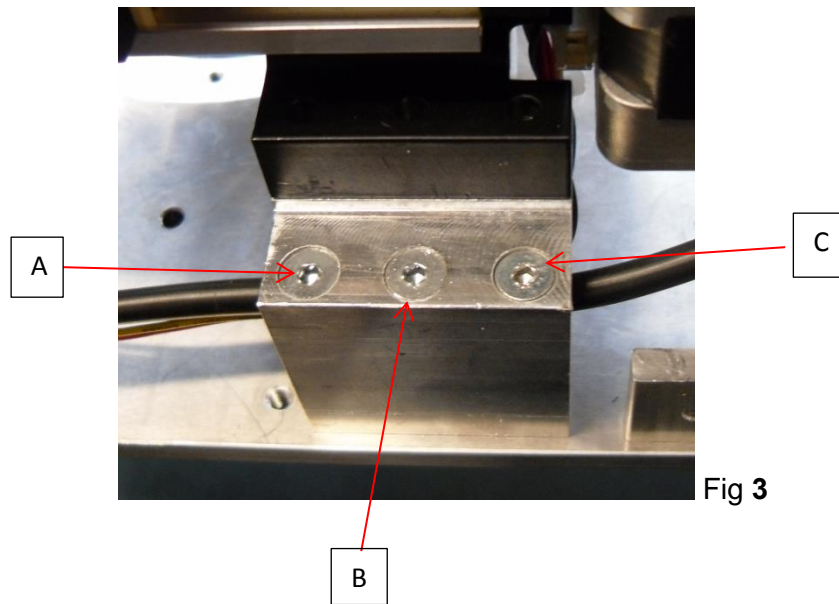

Fig 3
5. Remove the screws **A)**, **B)** and **C)** that fix the Iris unit to the support plate as shown in fig.3